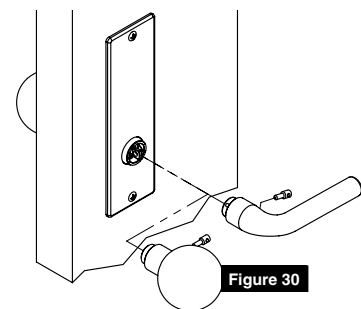

Figure 30
4. Install inside lever or knob by inserting dowel screw. (Figure 30)